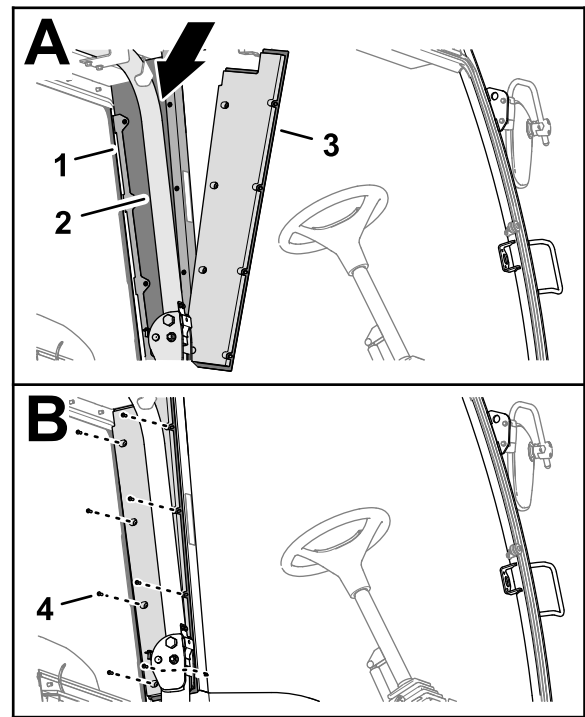

Figure 28
4. Use the previously-removed bolts to install the rear-pillar-cover assembly (i.e., the outer-pillar pads, rear-pillar covers, and sound-dampening panels) to the mount-panel brackets (Figure 28). Install the assembly so that the outer-pillar pad is facing towards the operator.